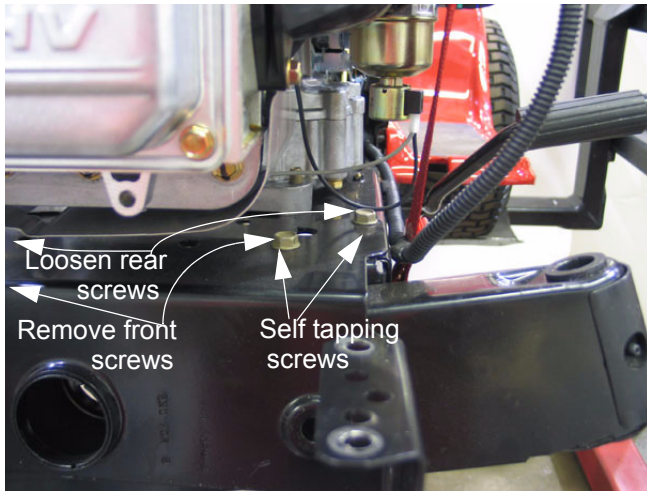

Figure 16.13
16.13. Remove the self-tapping screws on the left side of the tractor that secure the front pivot bracket. See Figure 16.13.